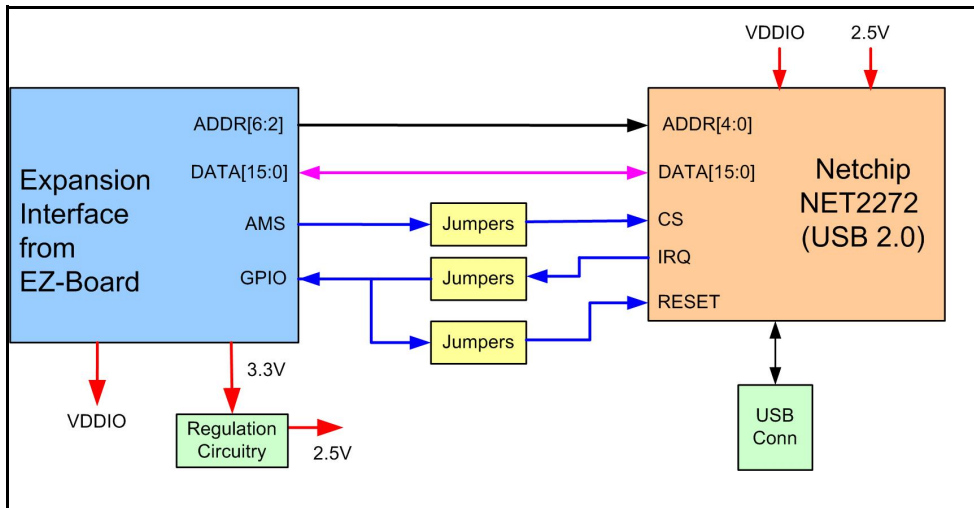

Figure 2-1. Block Diagram
3. Set the jumpers on the Blackfin/SHARC USB EZ-Extender board. Use the block diagram in Figure 2-1 on page 2-2 in conjunction with “Jumper Settings” on page 2-2.
A block diagram of the Blackfin/SHARC USB EZ-Extender is shown in Figure 2-1.